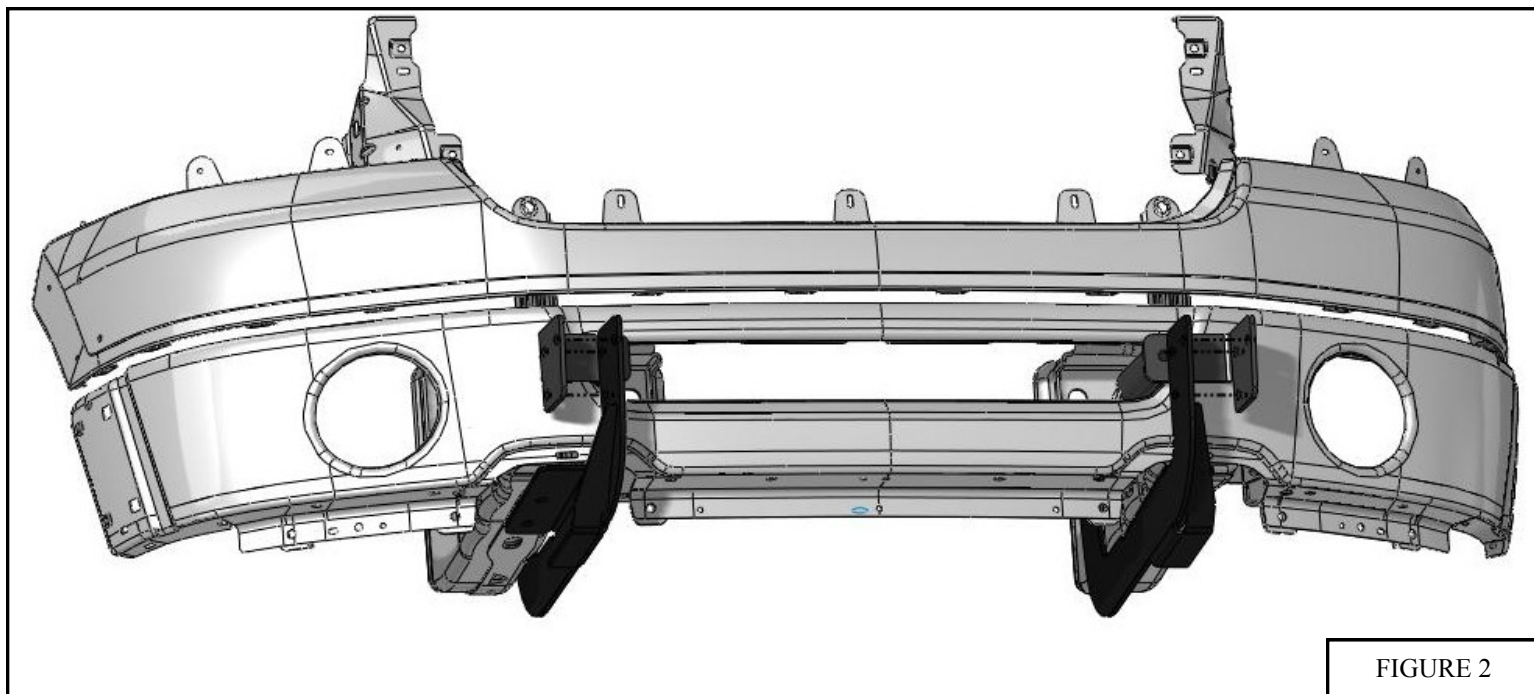

FIGURE 2
11. With assistance, attach the winch tray assembly and the grille guard (ITEM 1) to the lower mounting brackets with the upper mount bracket flange sandwiched between the tray and the lower mount bracket flanges, place the six spacer's (item 26) between the grille guard and the winch tray. Secure with six M12 x 75MM hex bolts (ITEM 14), twelve M12 flat washers (ITEM 16), six M12 lock washers (ITEM 17), and six M12 hex nuts (ITEM 15).Mount the grille guard to the upper support brackets using two M10 hex head bolts (ITEM 22), four M10 flat washers (ITEM 23), two M10 lock washers (ITEM 24), and two M10 hex nuts (ITEM 25) Do not fully tighten at this time. (FIGURE 2, 3, 12)